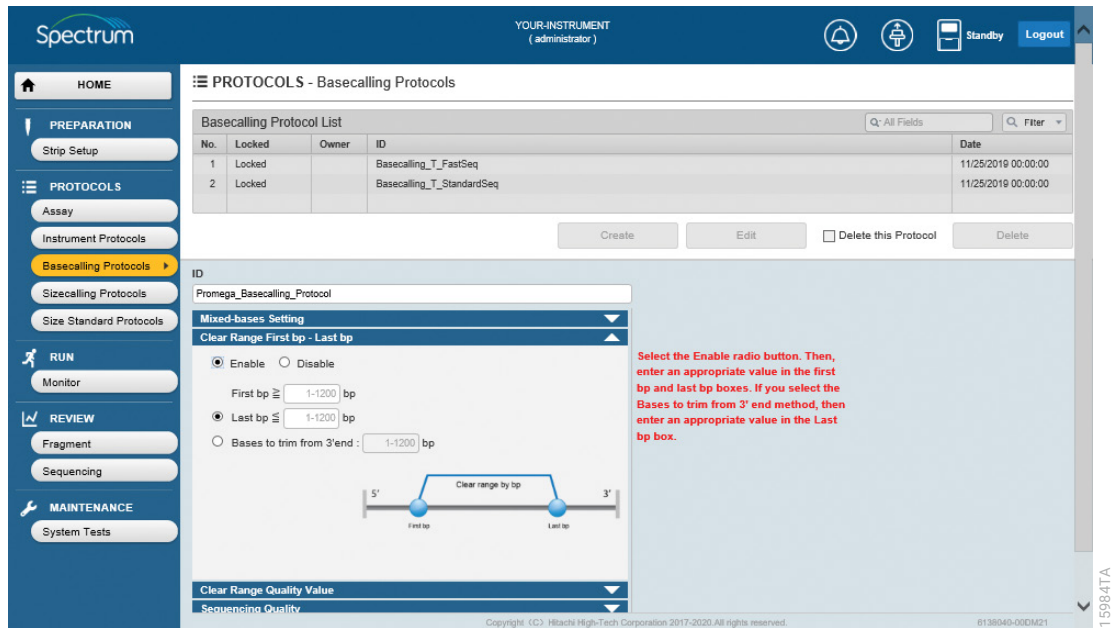

Figure 36. 'Clear Range First bp–Last bp' pull-down screen.
3. Select the **Clear Range First bp–Last bp** pull-down menu and select the **Enable** radio button if desired, to reveal the options for setting the first and last base to consider in the sequence (Figure 36). When this is enabled, the first bp position to be considered for analysis is set by entering the 5' bp position in the **First bp** field. The default 3' bp setting is the **Last bp** radio button which specifies the last bp in the sequence to consider (e.g., if set to 700bp, any base after the base-pair number 700 will not be analyzed). Enter the desired values to specify the first and last bases of the sequence to consider for analysis.